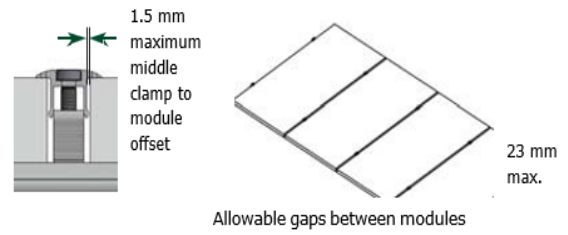

Fig 4.3.2A: Securing middle clamp and PV modules
I. Verify that the module clamp is fully engaged on the rail and 1.5 mm maximum middle clamp to module offset is aligned with the module frame [Fig 4.3.2A].